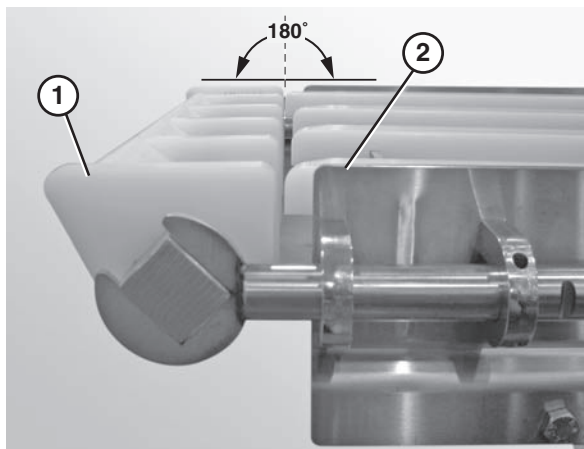

Figure 22
3. Ensure that the nose bar pucks (Figure 22, item 1) are in line with the conveyor frame (Figure 22, item 2).